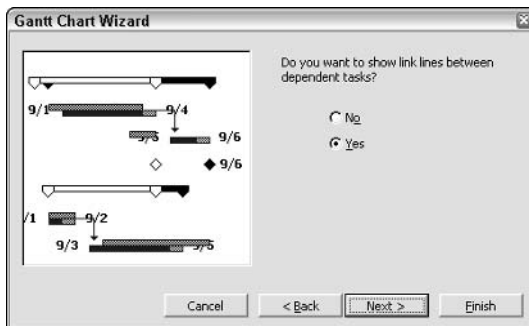

Figure 8-4: Decide whether to display link lines to indicate dependent tasks.
4. Click Next to display the next wizard dialog box, shown in Figure 8-4. Here you can decide whether you want to show link lines between dependent tasks.